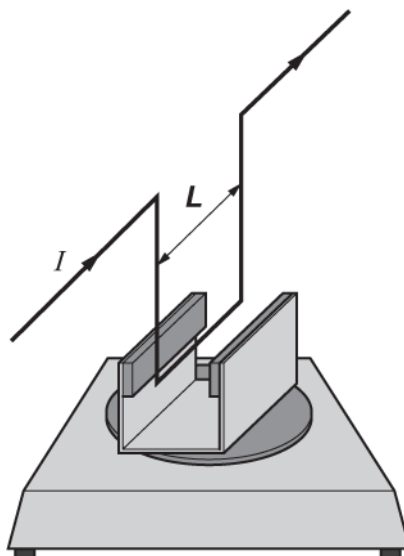

Fig. 3.1
- Fig. 3.1 shows the arrangement of the apparatus used in the experiment. It consists of a pair of slab magnets, with opposite poles facing one another, fixed onto a piece of U- shaped soft iron.